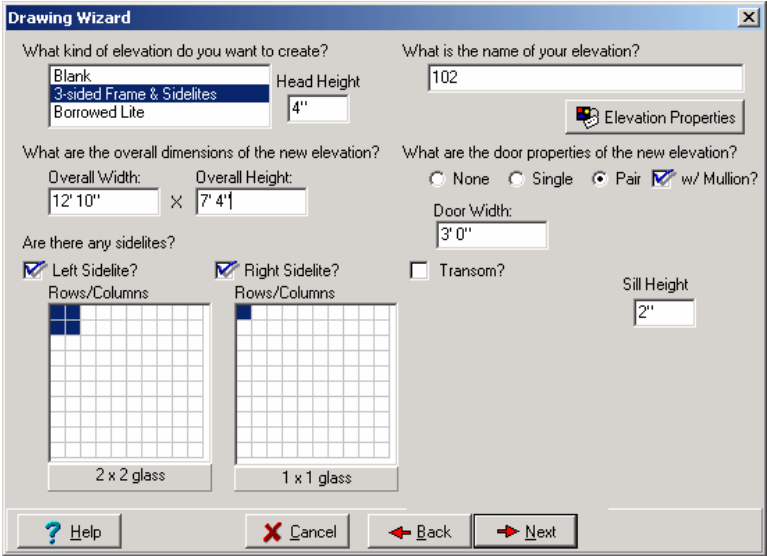

Figure 18
11. Make sure your page resembles figure 18 and click **Next**.